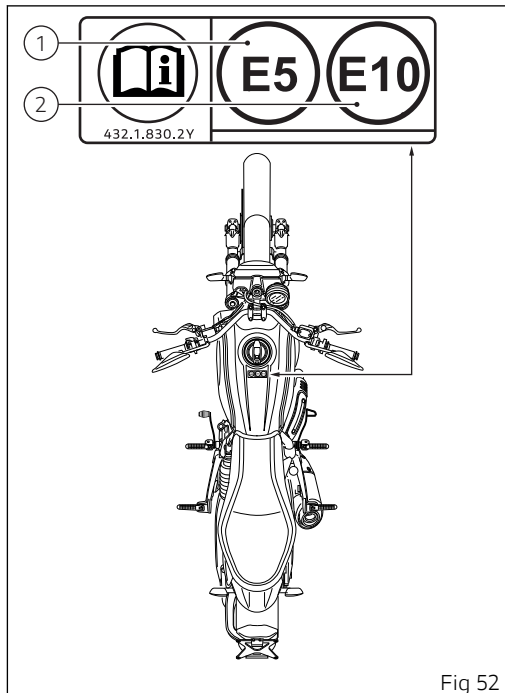

Fig 52
The label in (Fig 52) identifies the fuel recommended for this vehicle.
- 1) The E5 reference inside the label (Fig 52) indicates the use of fuel with a maximum oxygen content of 2.7% by weight and a maximum ethanol content of 5% by volume, according to EN 228.
- 2) The E10 reference inside the label (Fig 52) indicates the use of fuel with a maximum oxygen content of 3.7% by weight and a maximum ethanol content of 10% by volume, according to EN 228.